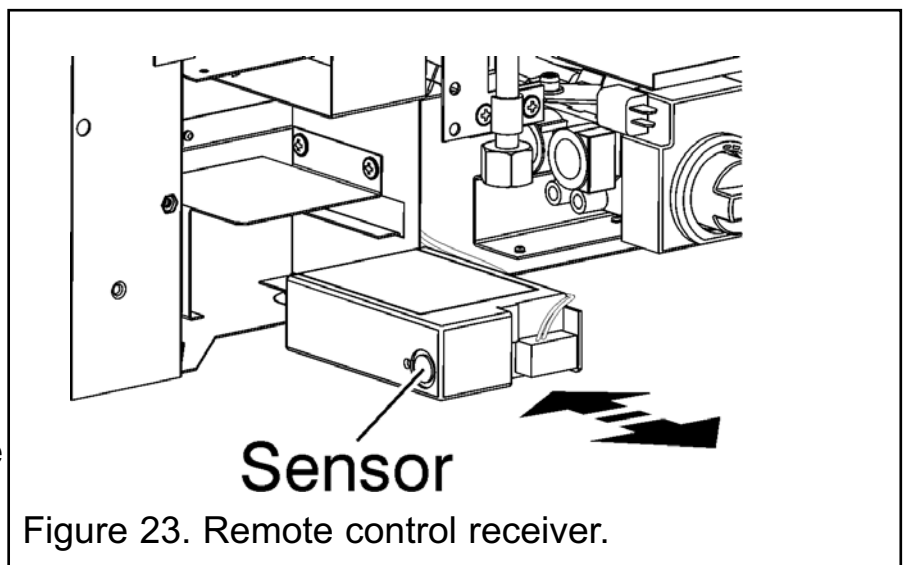

Figure 23. Remote control receiver.
1. Slide the remote control receiver out of its retention housing (See figure 23). Remove the receiver top cover and fit the four 'AA' batteries as indicated inside the receiver base. Replace the receiver top cover. Slide the receiver back into its housing. The ultra-sonic sensor must face towards the left of the appliance.